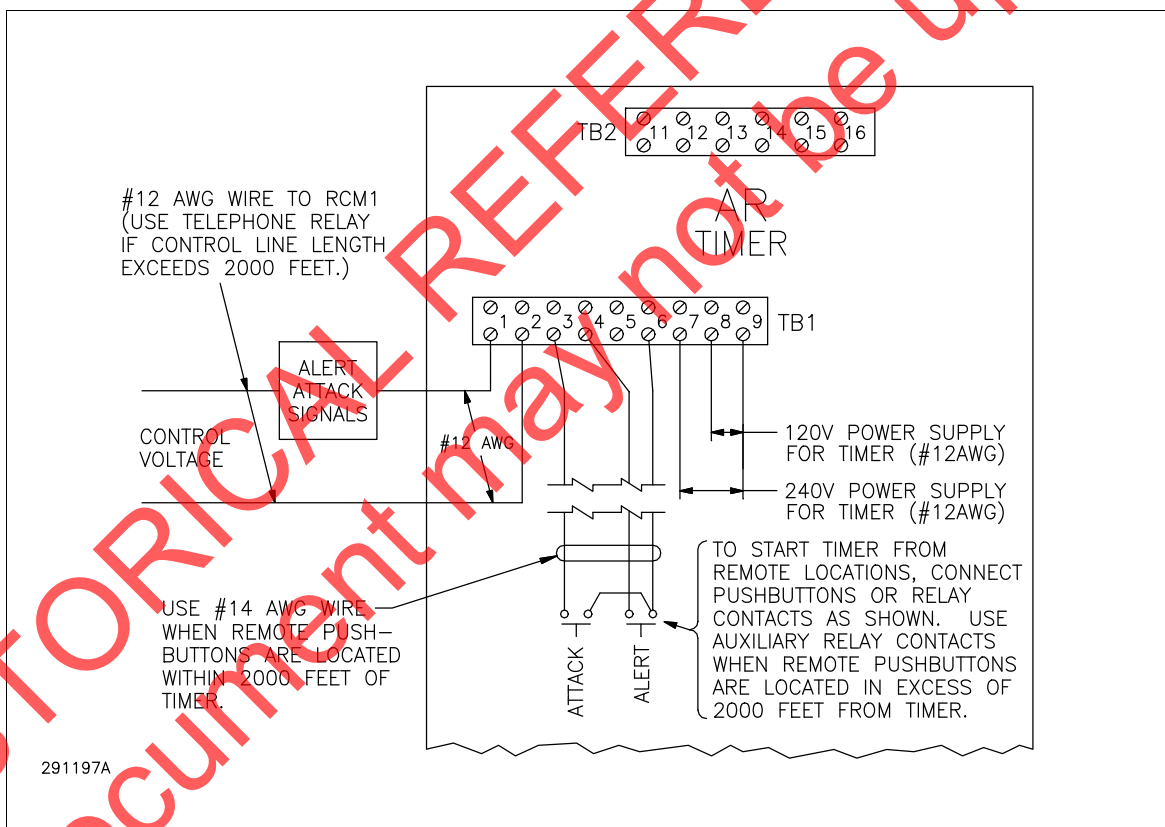

Figure 3-5. AR Timer Electrical Connections
7. Connect the AR Timer to terminals L1 and 3 in the motor starter. See figure 3-5, for the location of the control voltage terminals in the AR Timer. If it is desired to operate the timer from remote control pushbuttons, install them at this time also. If the length of the wiring between the pushbutton and the timer exceeds 1500 feet (457 m) or the timer and the motor starter exceeds 2000 feet (610m.), install an SPST telephone relay, such as a Federal Model TRC1020B, between the pushbuttons and timer or timer and motor starter. If it is required to cancel a signal from a remote location, remove the jumper between TB2-15 and TB2-16 in the AR Timer and connect the normally closed contacts of the switch or relay to TB2-15 and 16 (see figure 5-5).